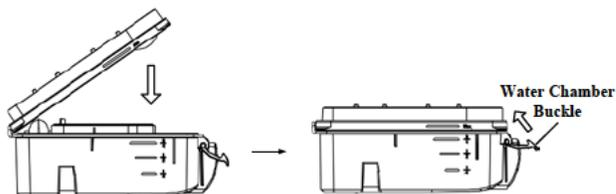

Fig. 5-6
(3) **Assembling the Water Chamber:** Place the two parts of the water chamber together as shown in Fig. 5-6. Press hard until they click into place.